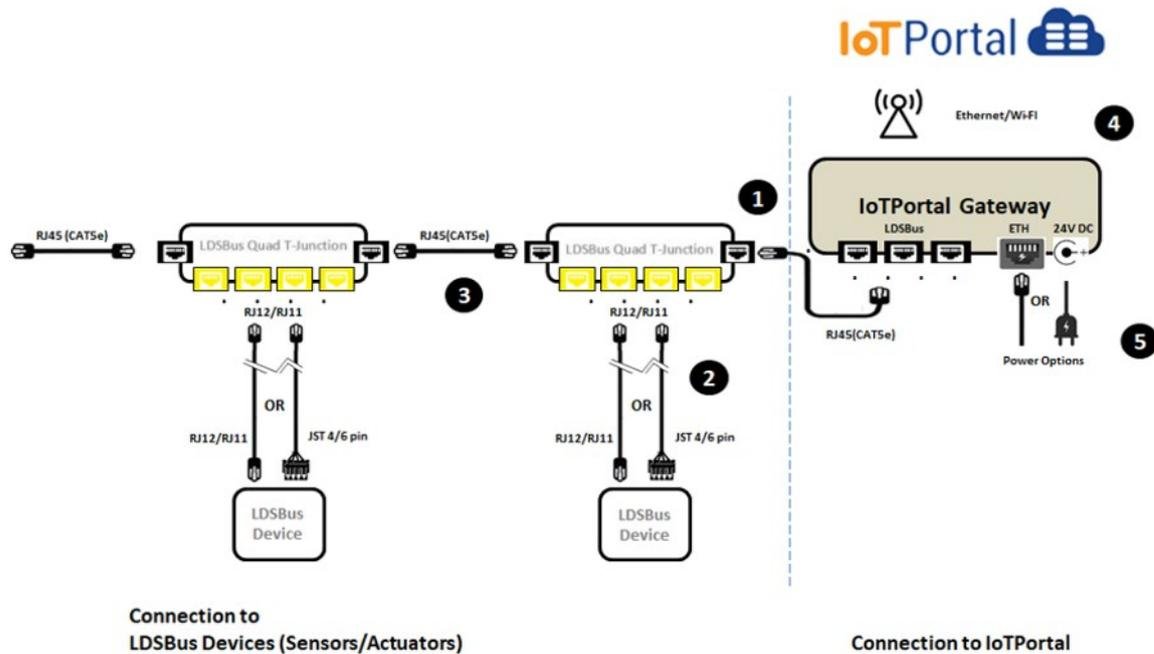

Figure 4 - LDSBus Devices – IoTPortal Gateway Connection
2. As shown in Figure 4, connect the configured LDSBus device(s) to the LDSBus Quad T-Junction. Make sure the termination is set to "ON" on the last device.
3. Chain the LDSBus Quad T-Junctions together (as shown in Figure 4) if there is more than one.